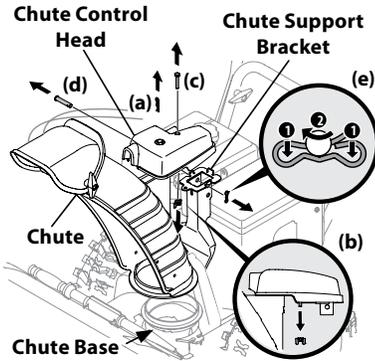

Figure 2-35
1. Remove cotter pin (a), wing nut (b) and hex screw (c) from chute control head. Remove clevis pin (d) and bow-tie cotter pin (e) from chute support bracket. See Figure 2-35.